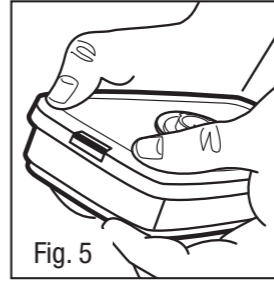

Fig. 5
- Engage back snap by squeezing back side of cartridge and adapter together using the same hand positions (Fig. 5). An audible click should be heard as each snap is engaged.